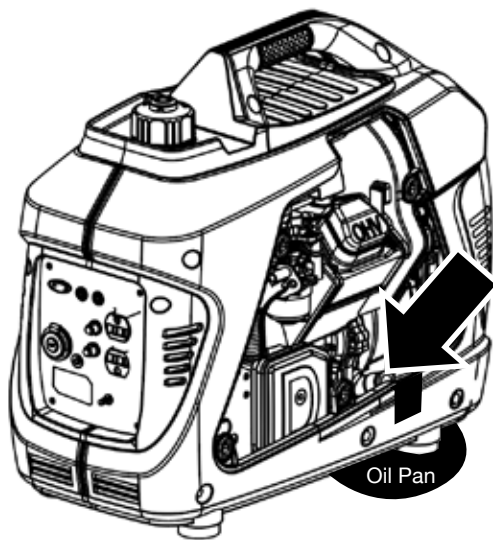

Figure 13: Place Oil Pan Under Oil Drain Hole
5. Place oil pan (or suitable container) under the oil drain hole (see Figure 13).